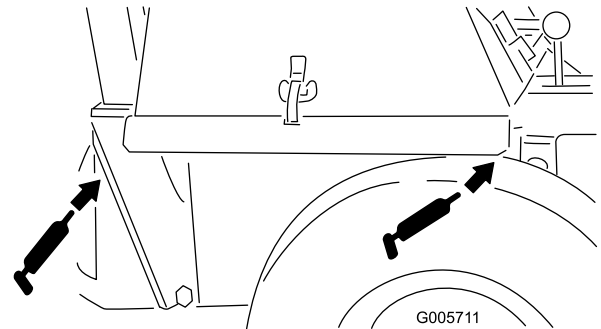

Figure 37
- PTO pivot housing blocks (Figure 37)